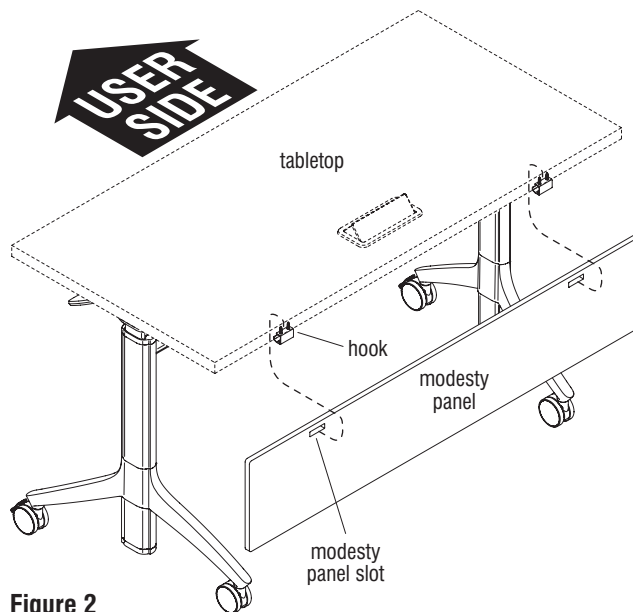

Figure 2
2. Position the modesty panel underneath the back, non-user side of the tabletop, near the hooks. Using the slots on the panel, hang the panel onto each hook (Figure 2, Details B & C).